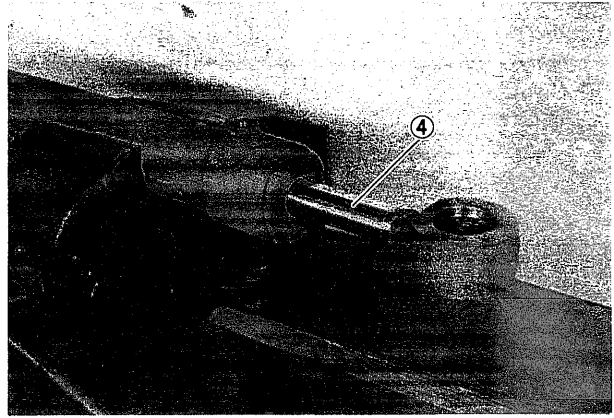

Fig. 117
- (1) Mount cylinder in vise. Pull piston rod (4) part way about 150 mm. (Fig. 117)